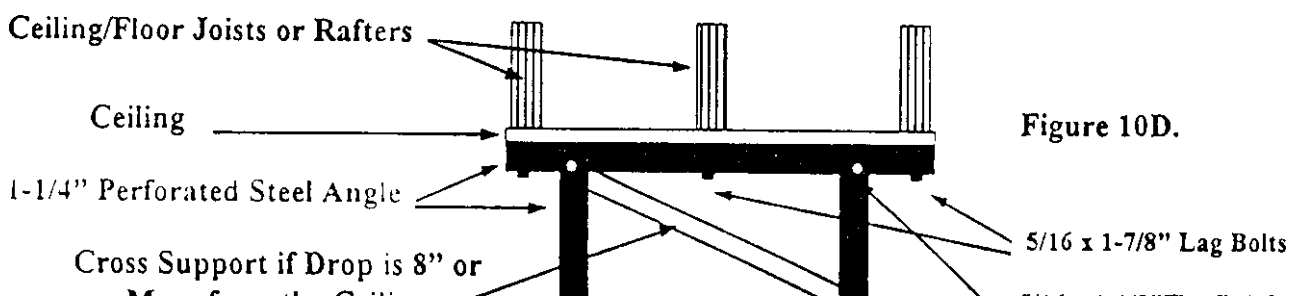

Figure 10D.
Step 4. Mount Power Head to Ceiling: Since there are many different ceiling designs, all possible mounting illustrations can not be shown. Primary concern is to secure the power head to the ceiling so that operational strength, rigidity and safety are achieved. The opener must be securely fastened to a structural support of the garage. Although there are a series of mounting slots provided on the power unit, try to secure the mounting hangers to the slots closest to the front. Mounting may usually be accomplished by using standard $1-1/4$ " perforated steel angle available at most hardware stores or from your local garage door service person. If in doubt as to location of, and attachment to, ceiling joists, a carpenter should be contacted to provide assistance. A cross support will be necessary if power head is mounted 8" or more from the ceiling. See Figure 10D.